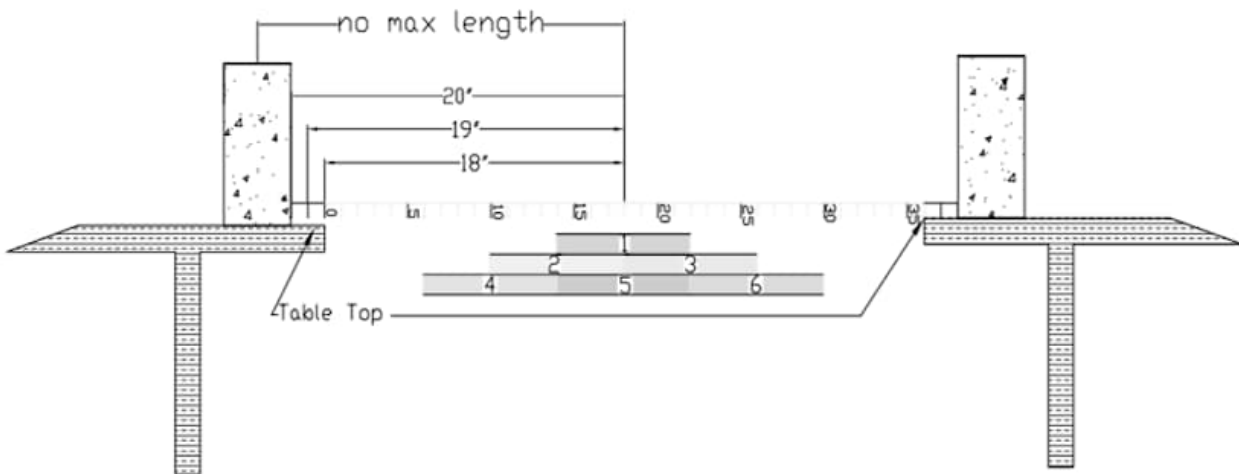

Figure 7: Possible Loading Positions
The roadway/loading surface must be provided at all potential wheel support locations (**see Figure 7**). Since the truck that is loaded has "wheels" that are each 2" wide, the roadway shall have enough material to prevent the wheel from falling through. There should not be any obstructions that would prohibit the truck from "driving" across the bridge span.
2. The truck will be placed on the loading surface at a point that will be determined by the roll of a die, which will take place at the time all bridges are received (see Figure 7). The random point will remain the same for all teams. A load transfer bar will be placed across the top of the truck with chains suspending a loading platform beneath the bridge. The loading platform is set on 4" tall blocks to assure that when the platform touches the base, the deflection of 4" has been exceeded. Participants will test each structure by placing the supplied weights onto the loading platform until failure. All bridges will be checked to assure the crossbar will fit prior to the competition.
4. The loading apparatus (truck + loading platform) must be capable of being supported on the loading surface (roadway) as shown in the diagram. This means that your structure MUST have enough roadway surface for the truck to be placed at one of the six locations along span (see Figure 7), but each bridge does not need a continuous surface. The roadway should be reasonably level (some arch is permitted) from one end of the bridge to the other without obstruction. Bridges with roadways that have excessive slope causing the truck to slide off of the bridge will not be aided in the loading process and tested as best possible.